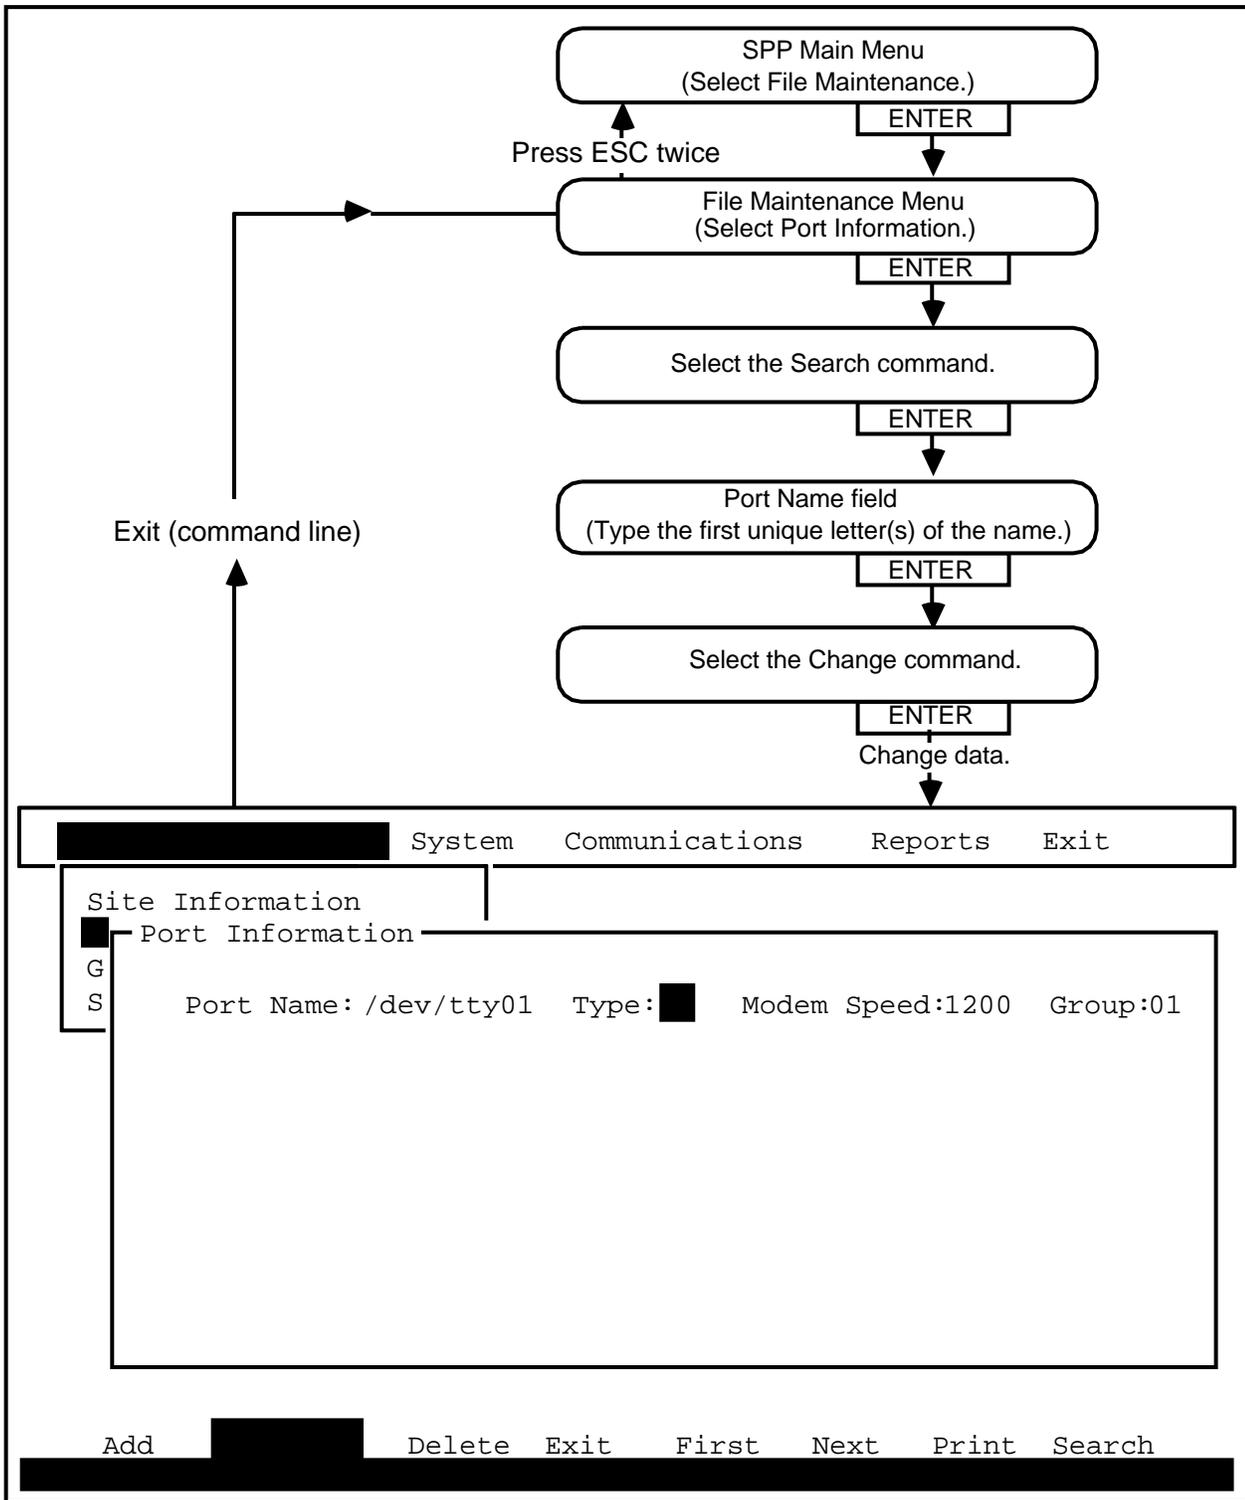

Fig. 3-6
3.17 To change a single port information record (see Fig 3-6), proceed as follows: